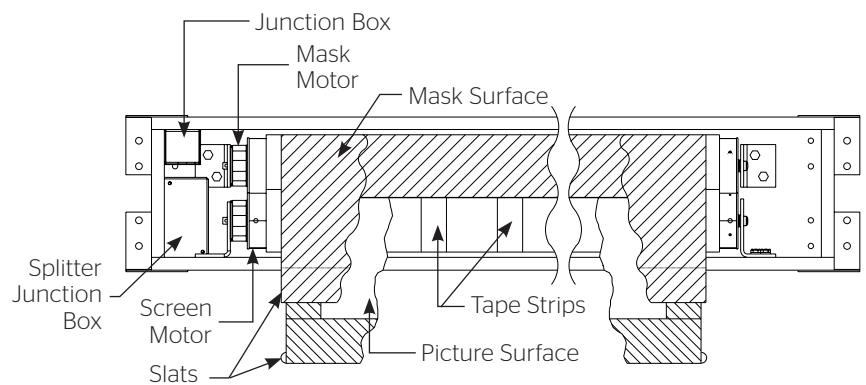

Figure 2
4. Remove the two screws holding the splitter junction box (Figure 2).